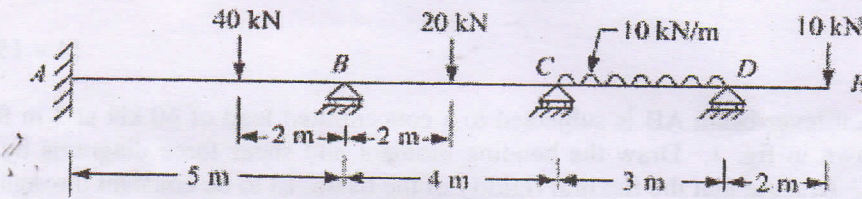

Fig. 5
- VII. Analyse the continuous beam shown in fig.5 by moment distribution method and draw its bending moment diagram. Flexural rigidity is constant throughout the beam.